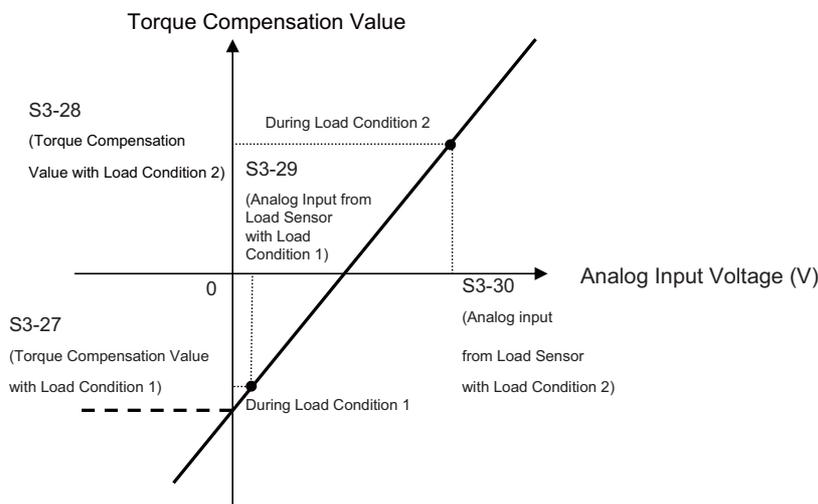

Figure 4.17 Torque Compensation at start for the Elevator in Up and Down Direction
Figure 4.17 shows the Torque Compensation at Start settings with parameters S3-27 to S3-30.
The solid line in Figure 4.17 indicates the torque compensation at start when the elevator moves up or down.
- PRG: 7016 and later have no torque compensation limit when adding negative voltage to analog input voltage (see Figure 4.17).